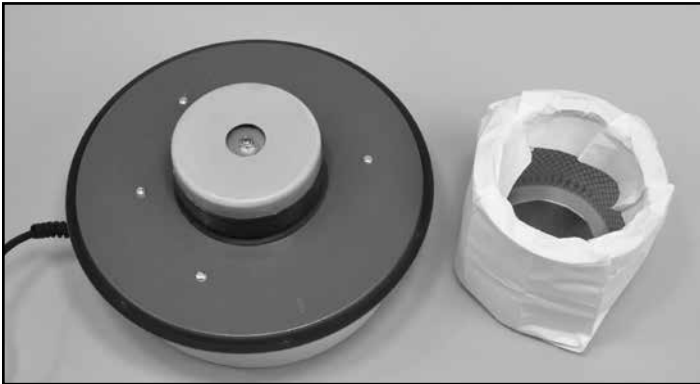

FIG. 2
2. Fold the top edges of the paper filter bag down inside of the cartridge filter. FIG. 2.